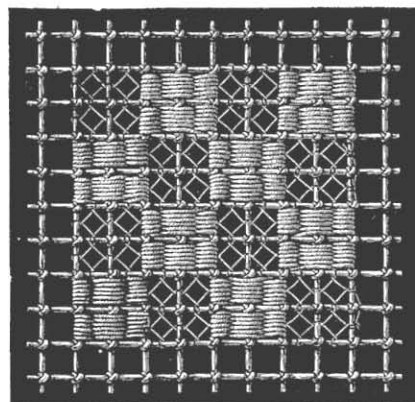

Fig. 49. Ground of squares in darning and loop stitch.
**Ground consisting of squares in darning and loop stitch** (fig. 49). — Darning stitches worked horizontally in the coarse thread, over four squares of the net, alternate with loop stitches in fine thread covering, the same number of squares.